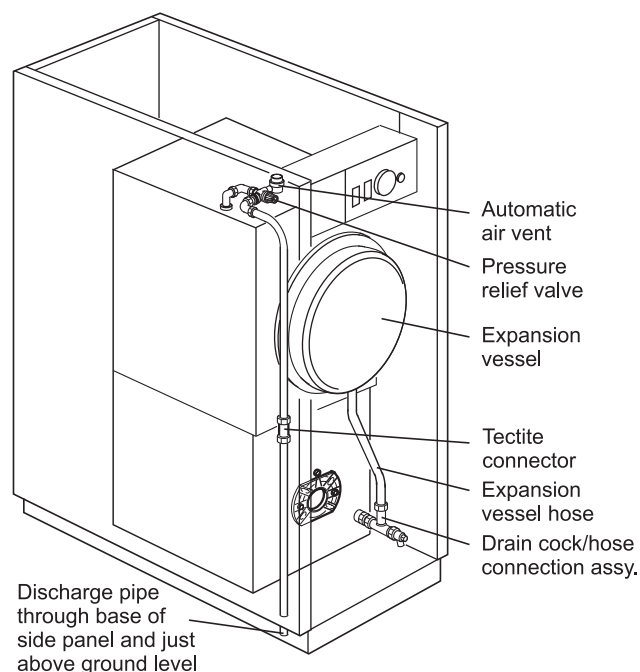

Fig. 15c
- 5 Take the two sections of 15 mm pipe supplied and join together using the 15 mm tectite connector, ensuring that the machine pulled bend is at one end of the pipe (see Fig. 15c). Fit the 15 mm pressure relief pipe to the PRV assembly using the short piece of 15 mm tube and 15 mm tectite elbow supplied. Ensure that the end of the pipe protrudes through the base of the side panel and is clear of the ground level and any obstructions. Tighten the nut and olive on the PRV assembly.
- c Re-connect the drain cock/hose connection assembly to the connector, with the hose connection pipe upwards, and tighten the union (see Fig. 15c).